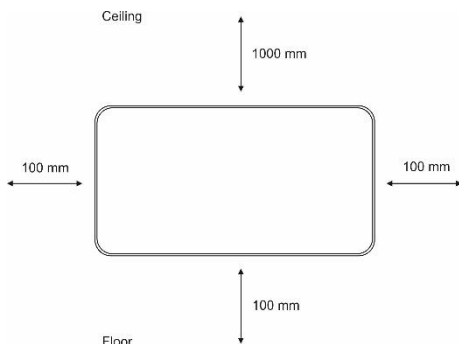

Fig. 3 Minimum distance to extraneous objects when wall-mounted
1. Determine the installation location of the device, observing the minimum distances to foreign objects, ceiling and floor (**Fig. 3**).